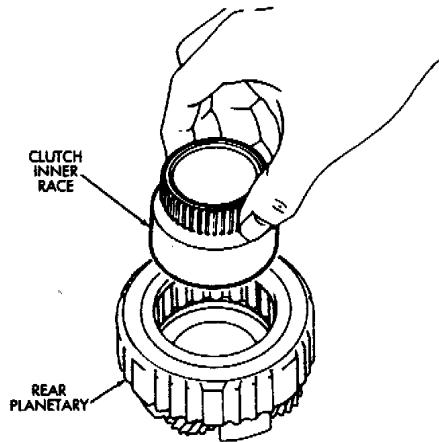

Fig. 7 Removing/Installing Clutch Inner Race
- (6) Install clutch retaining snap ring and install clutch inner race (Fig. 7). Turn race counterclockwise to ease installation.